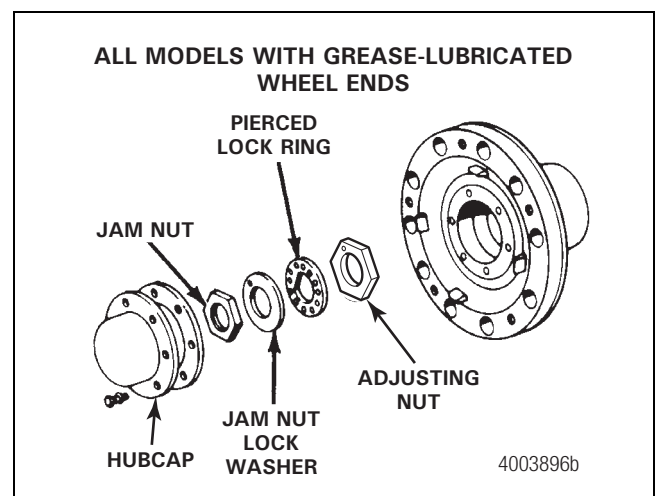

Figure 43
11. Adjust the wheel bearings. Figure 43.